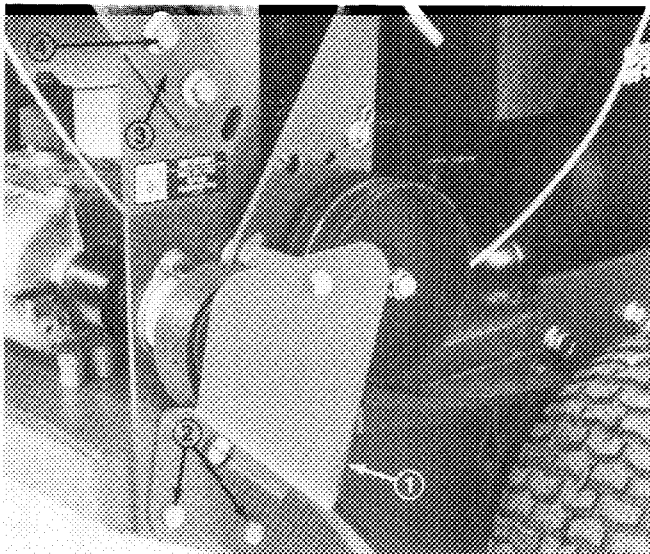

Figure 2
1. Remove (2) capscrews and locknuts securing bottom of R.H. support bracket to rear frame (Fig. 2).
2. Remove top flange head capscrew and flangenut securing right side of handle to frame (Fig. 2).